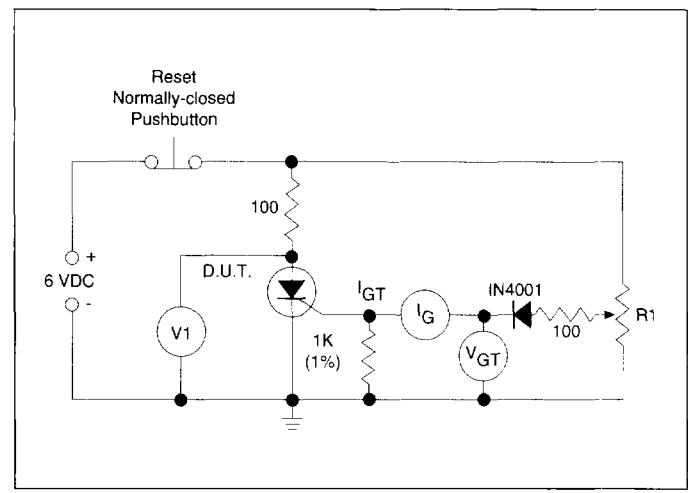

Figure 5.19 Simple Test Circuit For Gate Trigger Voltage and Current Measurement
- (10) Test condition is maximum rated RMS current except TO-92 devices are  $1.2A_{PK}$ ; T106/T107 devices are  $4A_{PK}$ .
- (11)  $V_D = 6VDC$ ,  $R_L = 100\Omega$ . See Figure 5.19 for simple test circuit for measuring gate trigger voltage and gate trigger current.